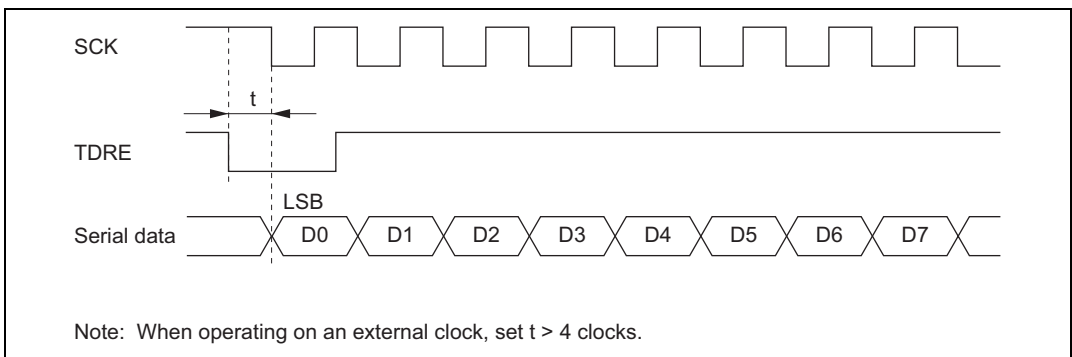

Figure 15.35 Example of Synchronous Transmission Using DTC
- When an external clock source is used as the serial clock, the transmit clock should not be input until at least 5 ϕ clock cycles after TDR is updated by the DMAC or DTC. Misoperation may occur if the transmit clock is input within 4 ϕ clocks after TDR is updated. (Figure 15.35)